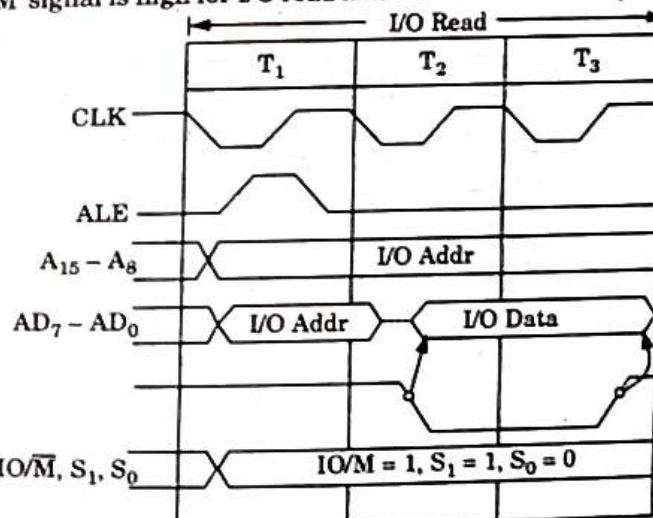
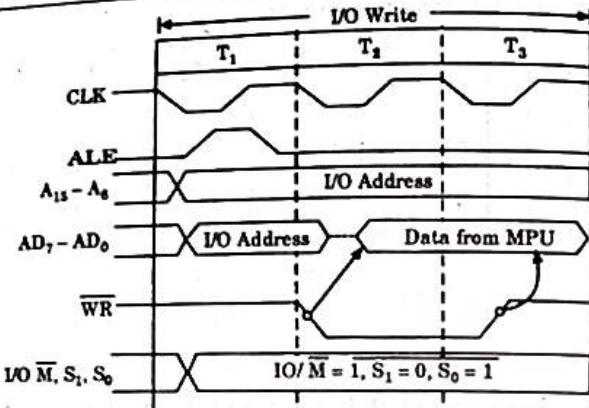

Fig. 1.23.1. I/O Read memory cycle.
Fig. 1.23.2. I/O Write machine cycle.
2. Here high IO/M signal indicate that it is an I/O operation. Fig. 1.23.1 and Fig. 1.23.2 show the timing diagrams for I/O read and I/O write cycles respectively.